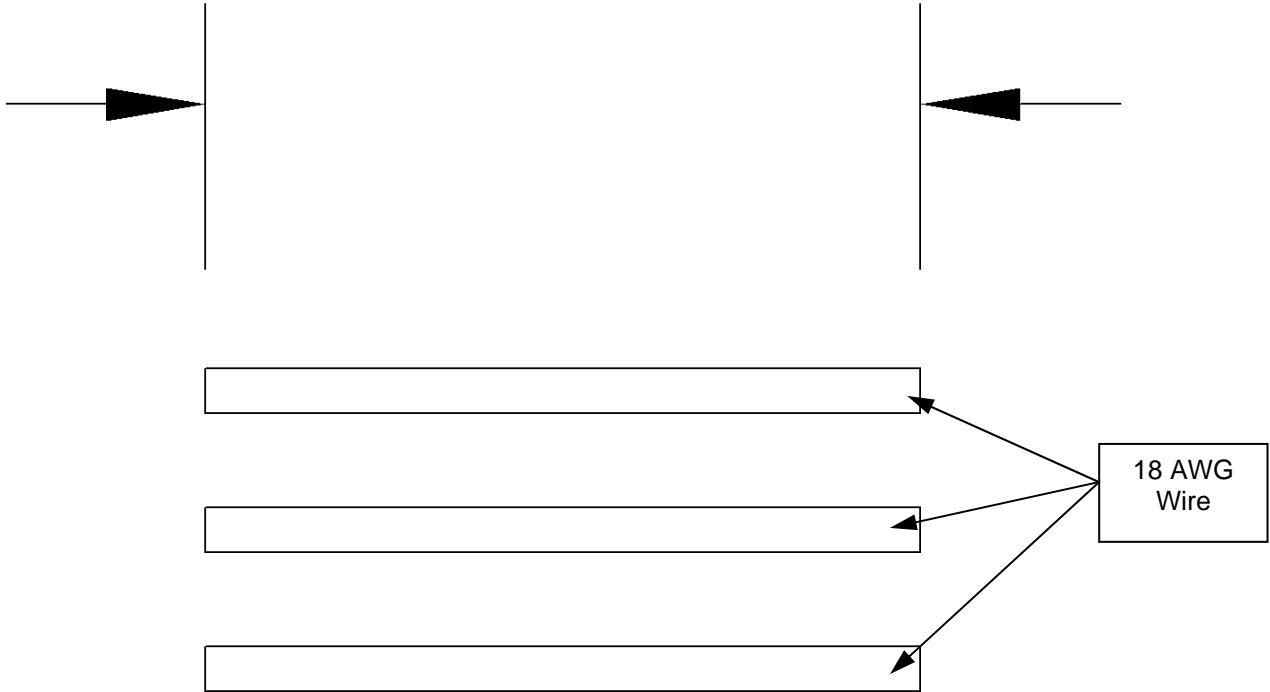

Figure 11
Step 5: Measure and cut (3) pieces of 18 AWG wire to a sufficient length to reach from the backplate on the Setback Control Junction Box Assembly to the Setback Control Protective Plate. This is shown in Figure 11.